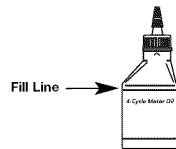
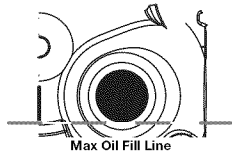

Fig. 29
Fig. 25
- Look into the oil fill hole, use a flashlight if needed. The oil should be just touching the inner most thread (Fig. 25).
- If the oil level is not touching the inner most thread on the oil fill hole, add a small amount of oil to the oil fill hole and recheck (Fig. 25). Repeat this procedure until the oil level reaches the inner most thread on the oil fill hole.
NOTE: Use the bottle and spout saved from initial use to measure the correct amount of oil. The top of the label on the bottle measures approximately 3.04 ounces (90 ml) (Fig. 29). Check the level. See Checking the Oil Level. If the level is low, add a small amount of oil and recheck. Do not overfill (Fig. 25).